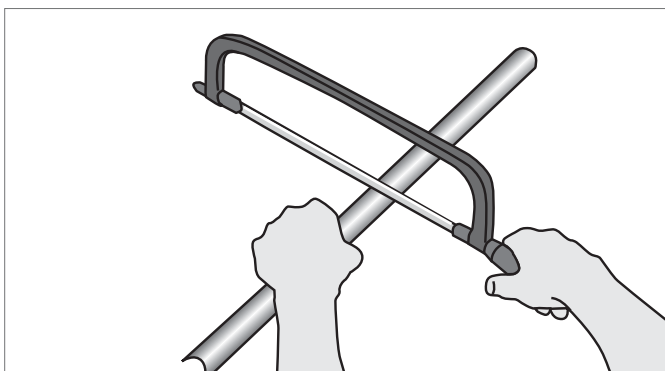

Fig. 13-6 Cutting off
1. Cut off the pipe support channel with a metal saw (see Fig. 13-6). Maintain a safe distance between the holding hand and the cutting tool. Saw pipe support channels from the rounded rear side so that they are not bent open at their bordered ends.